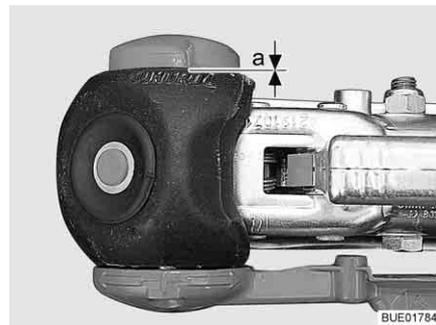

Fig. 198 Friction control
- Distance $a = 0$ (Fig. 198): Check and, if necessary, replace the friction pads.